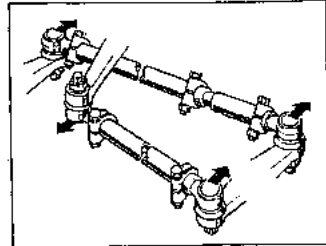

Fig. 11.39 Tap the balljoints in the direction of the arrows (Sec 32)
- 8 When the setting is correct, clamp the sleeve bolts and tap the balljoints lightly in the directions shown in Fig. 11.39 as far as they will go to ensure that their travel is unrestricted.